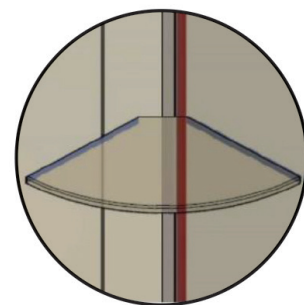

FIG 31.
- After 24-48 hours remove stabiliser blocks (**FIG 31**).
- If required, slide drip seal onto bottom of door and trim fin (FIG 31). Seal should just miss top of base when door is shut. If gap between door and floor is too large, seal can be lowered up to 6mm. Seal fin can also be trimmed if too long.